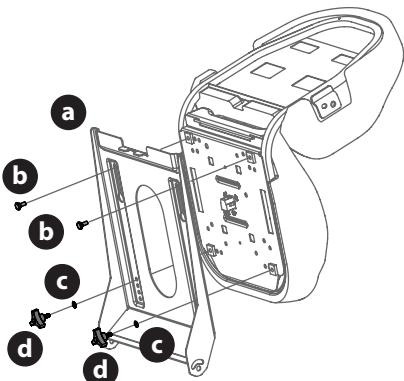

Figure 4
2. Install the seat onto the seat pan (a) using hardware provided (Figure 4).
- a. For a Knob Adjust seat insert bolts (b) in the rear holes and lock washer (c) and knobs (d) in the front. Tighten securely (Figure 4).